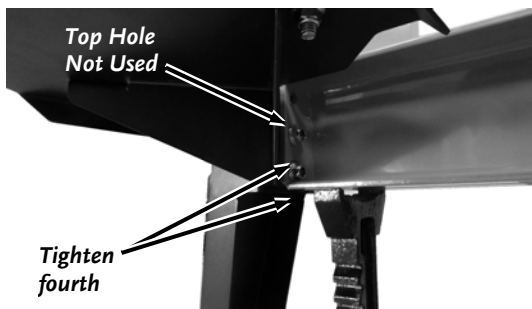

Figure 8
9. Fourth, tighten the four Bolts and Locknuts that secure the Frame Stand and Support Brackets to the Beam (**Figure 8**).